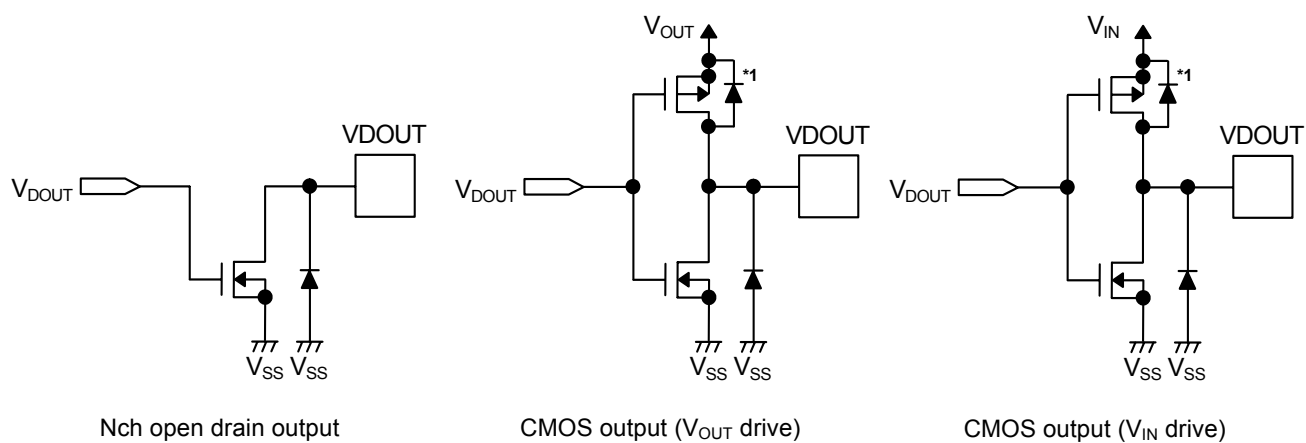

**Figure 33** Equivalent Circuit of CD Pin (External Delay Type)
**Figure 33** shows the equivalent circuit of the CD pin (external delay type).